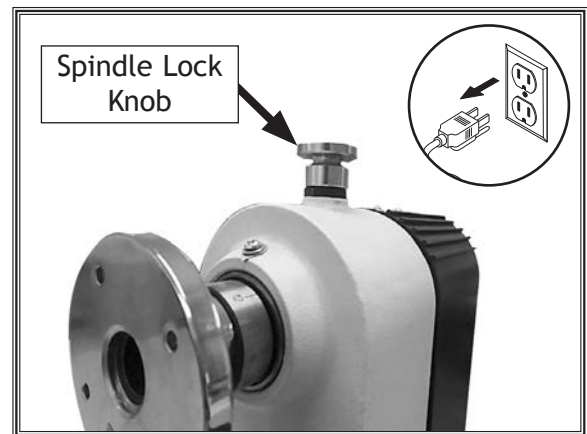

**Figure 24.** Example of installing live center in tailstock.
3. Firmly insert tapered end of center into tailstock, as shown in **Figure 24**.